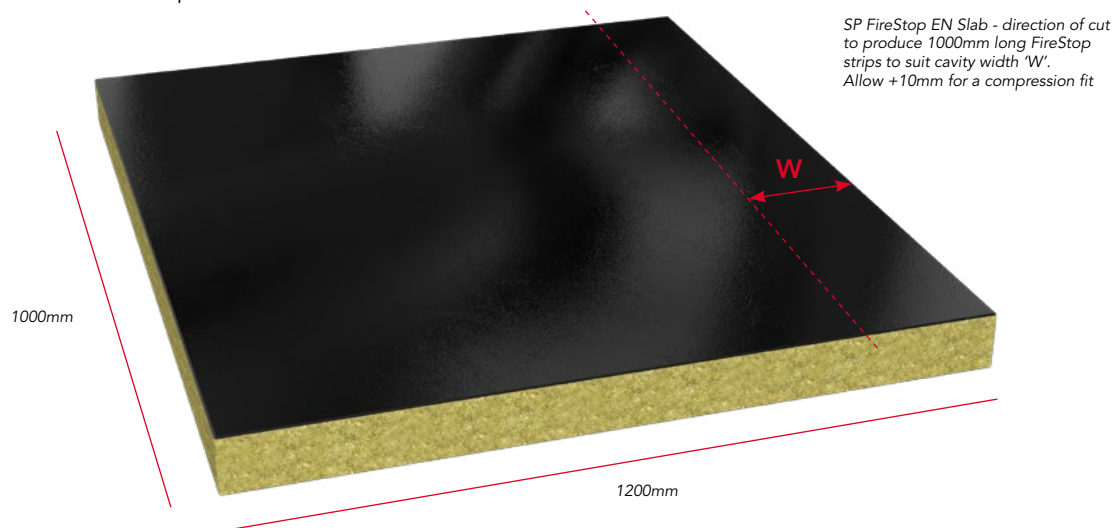

Figure 2
For easy compression fitting and to accommodate the fixing pattern, cutting should be along the 1000mm length as indicated in figure 1. The SP Fixing Brackets are then re-profiled by hand and cut as necessary to allow at least 75% penetration of the fire stop material – see Figures 2 to 5.
2. Insert two appropriately re-profiled SP Fixing Brackets into the cut strip at 500mm centres / 250mm \pm 10mm from each end (Figure 2).